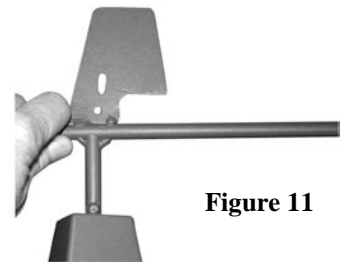

Figure 11
Slide the Mast Head Washer (B) onto the post of the Wheel Arm (K) and the guide the post of the Wheel Arm (K) and the complete tail assembly into the hole on the top of the Mast Head (A). (Figure 11)